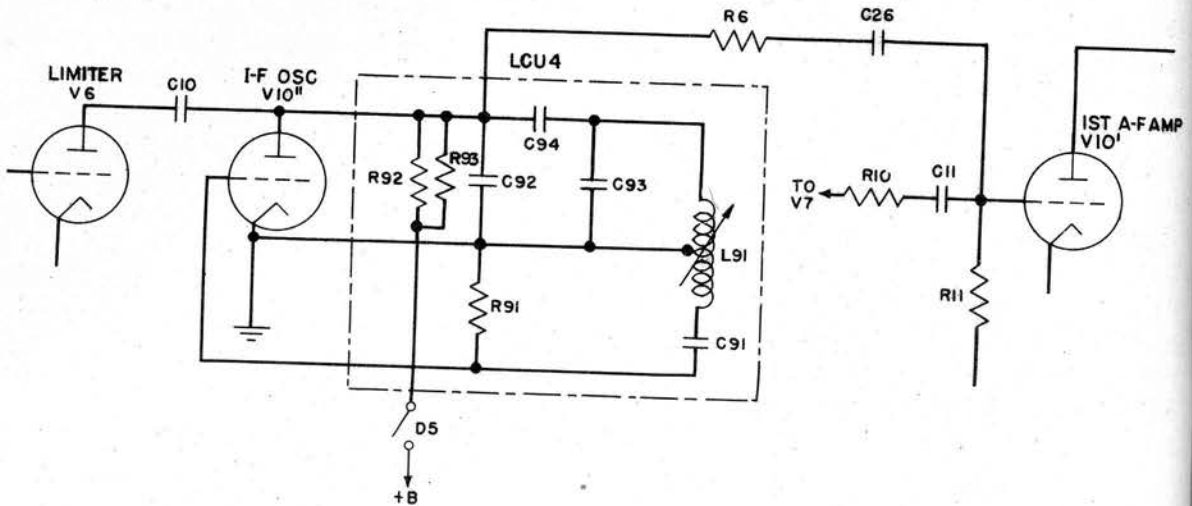

Fig. 31. Radio Receiver BC-683-A: Functional Diagram of I-f Oscillator
*j. I-f Oscillator.* A functional diagram of the intermediate-frequency oscillator is shown in Fig. 31.